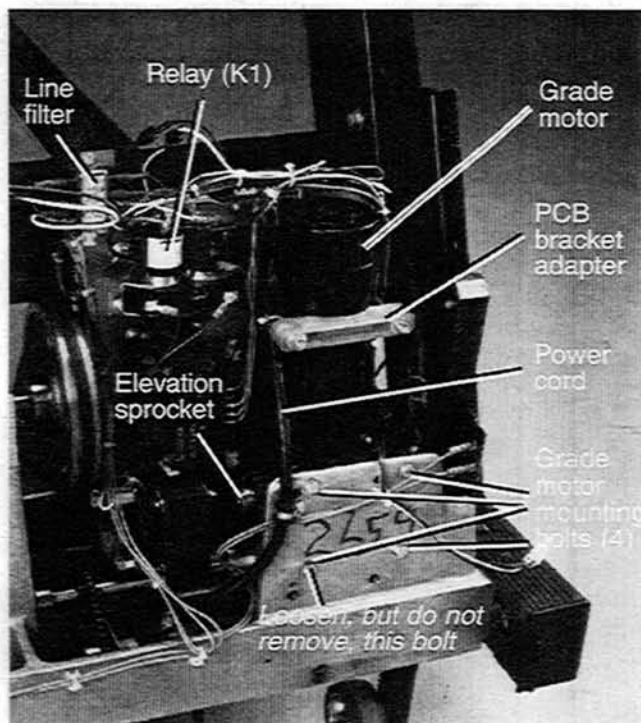

Figure 3-23. Grade Motor and Line Filter
3. Remove the cable ties that secure the grade motor wires, then disconnect the wires from the wire harness connectors. See Figure 3-23.
6. Loosen, *but do not remove*, the lower right-hand screw that attaches the grade motor to the headframe. See Figure 3-23.